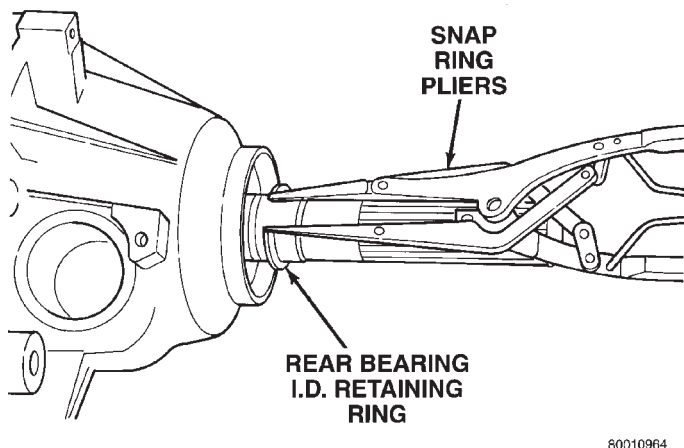

Fig. 9 Rear Bearing I.D. Retaining Ring Removal
(5) Remove rear output bearing I.D. retaining ring (Fig. 9).